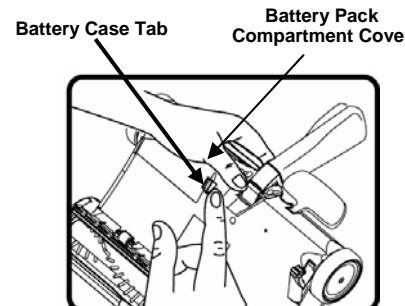

Fig. 3
- Push in locking tab and lift off battery compartment cover. (Fig. 3 & 4)